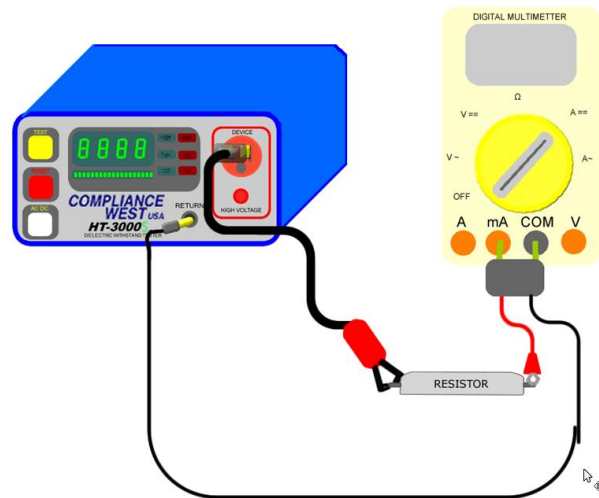

Figure 9. Current Measurement with 100 W High Voltage Resistor.
2. Connect the output of the HT-S through a 100 watt high voltage load resistor (60k Ω for AC or 240k Ω DC) in series with an external current meter returning to the Return jack on the front panel of the HT-S as is shown on Figure 9, or hook up the positive probe terminal to the High voltage test jack on units that have it..